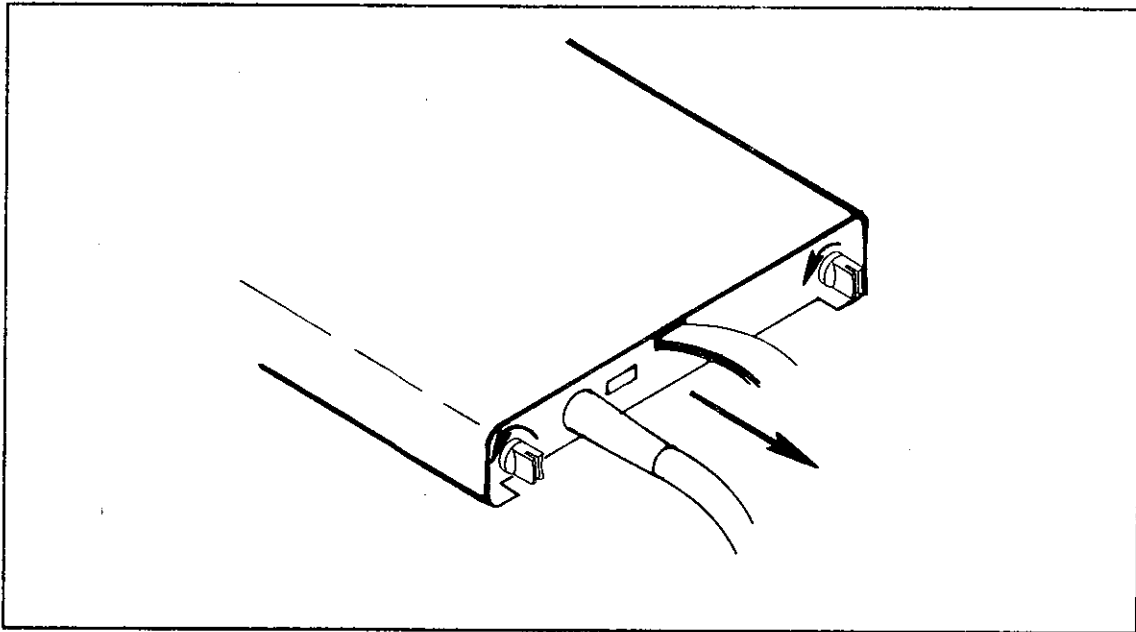

Figure 2-1. Opening the Back Panel of the Pod
2. Open the back panel of the Pod by turning the thumbscrews on each side counterclockwise, and then pulling the panel out from the case (see Figure 2-1).